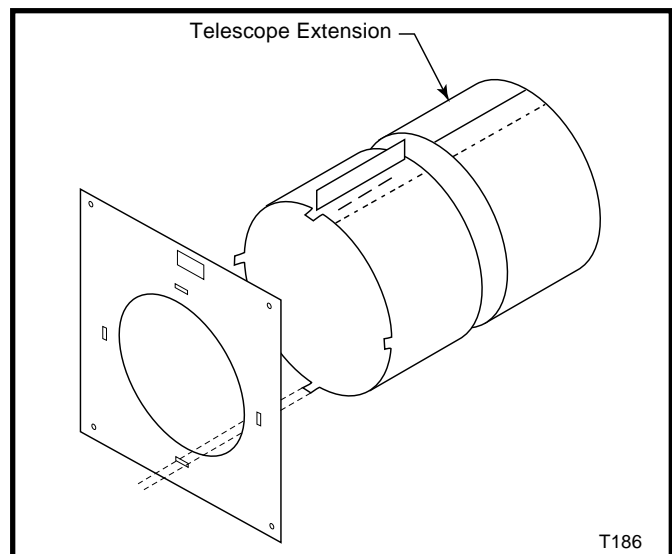

Fig. 19 The telescope extension must be used if wall thickness is over 5" (127mm).
1. Measure the total wall thickness. Determine whether or not the thimble extension is needed. If the combustible wall depth is over 5" (127mm), the extension should be used. (Fig. 19)
2. Assemble wall thimble with thimble extension flange to top. Mate thimble to wall plate with the four tabs provided. Bend tabs over to secure. (Fig. 19)
3. Locate vent opening in wall. Maintain 2" (51mm) clearance to top of vent from combustibles. Install wall thimble per instructions supplied with Horizontal Vent Kit. Refer to Pages 12 & 13, Figures 19 and 20 for wall thimble installation.
4. Attach vent components beginning with a TDV45S elbow. Apply high temperature sealant to the outside leading edge of the fireplace flue pipe, then install the TDV45S starter elbow and secure it to the fireplace with the three (3) screws (provided) through the outer pipe flange and into the fireplace 7" (178mm) dia. starter flange.